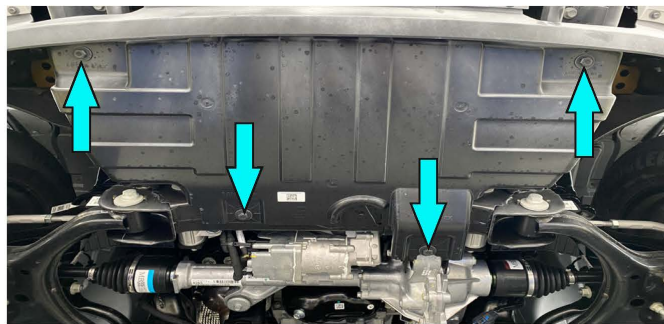

Fig.61
61. Install OE plastic plate and fix it using OE hardware (fig.61).